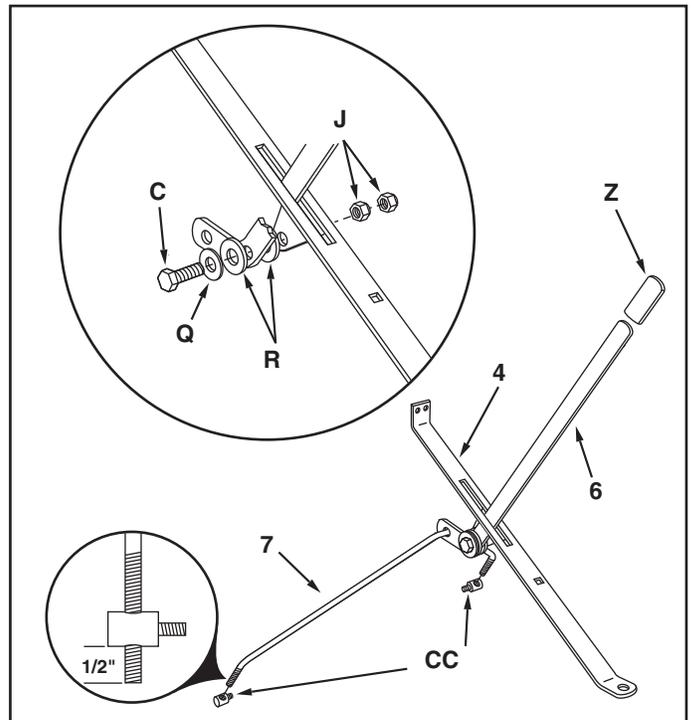

FIGURE 21
29. Assemble the plastic grip (Z) onto the end of the flow control arm (6). See figure 21.
30. Insert the flow control arm (6) through the slot in the hopper brace (4). Place a nylon washer (R) on each side of the arm and attach it to the brace's welded bracket using a 1/4" x 1-1/4" hex bolt (C), a 1/4" flat washer (Q), and two 1/4" nylock nuts (J). **Tighten** the first nylock nut until there is noticeable resistance when moving the flow control arm, then **tighten** the second nylock nut. See figure 21.
31. Place the flow control rod (7) through the hole at the end of the flow control arm (6). Assemble the two ferrules (CC) onto the threaded ends of the rod so that approximately 10 threads (1/2") of the rod extends through the ferrules. See figure 21.